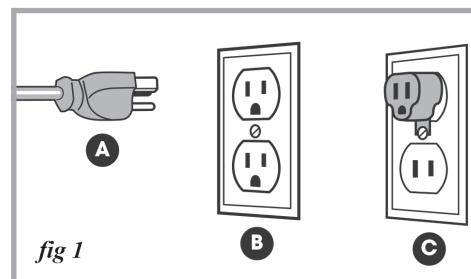

fig 1
4. Lift the head assembly (I, fig.1) above and slide it onto the top of the column.